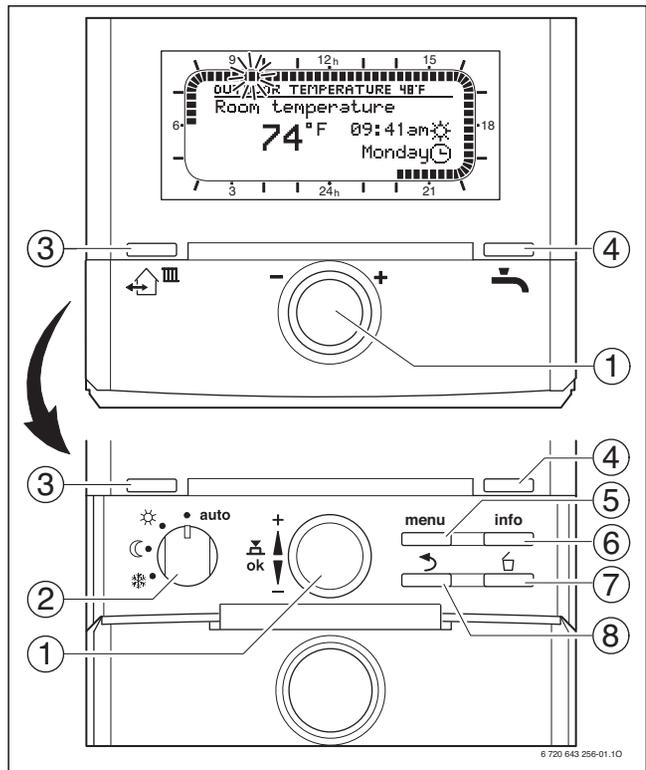

Fig. 63 FW 200 heating control with front flap closed / flap opened
Legend to Fig. 63:
In the following description, at any time, pressing the menu button (→ Fig. 63, [3]) will bring you back to the standard display.
- ▶ Turn the dial (→ Fig. 63, [1]) to adjust time and date.
- ▶ Press and hold the menu button (→ Fig. 63, [5]) until this prompt disappears.
- ▶ Press the menu button (→ Fig. 63, [5]).
- ▶ Turn the dial (→ Fig. 63, [1]) counter-clockwise until **General settings** is highlighted.
- By turning the selector (→ Fig. 63, [2]) to the comfort symbol (☀).
- ▶ Press the menu button (→ Fig. 63, [3]).